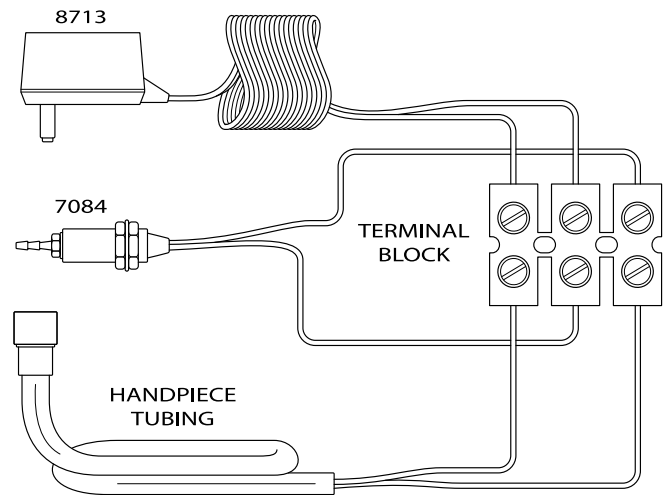

Figure 1: Wiring Diagram
5. Connect wires from handpiece tubing and air activated electric switch #7084 to terminal strip by placing the wires into the square holes as indicated in the wiring diagram (See Figure 1), and tightening the corresponding screw.